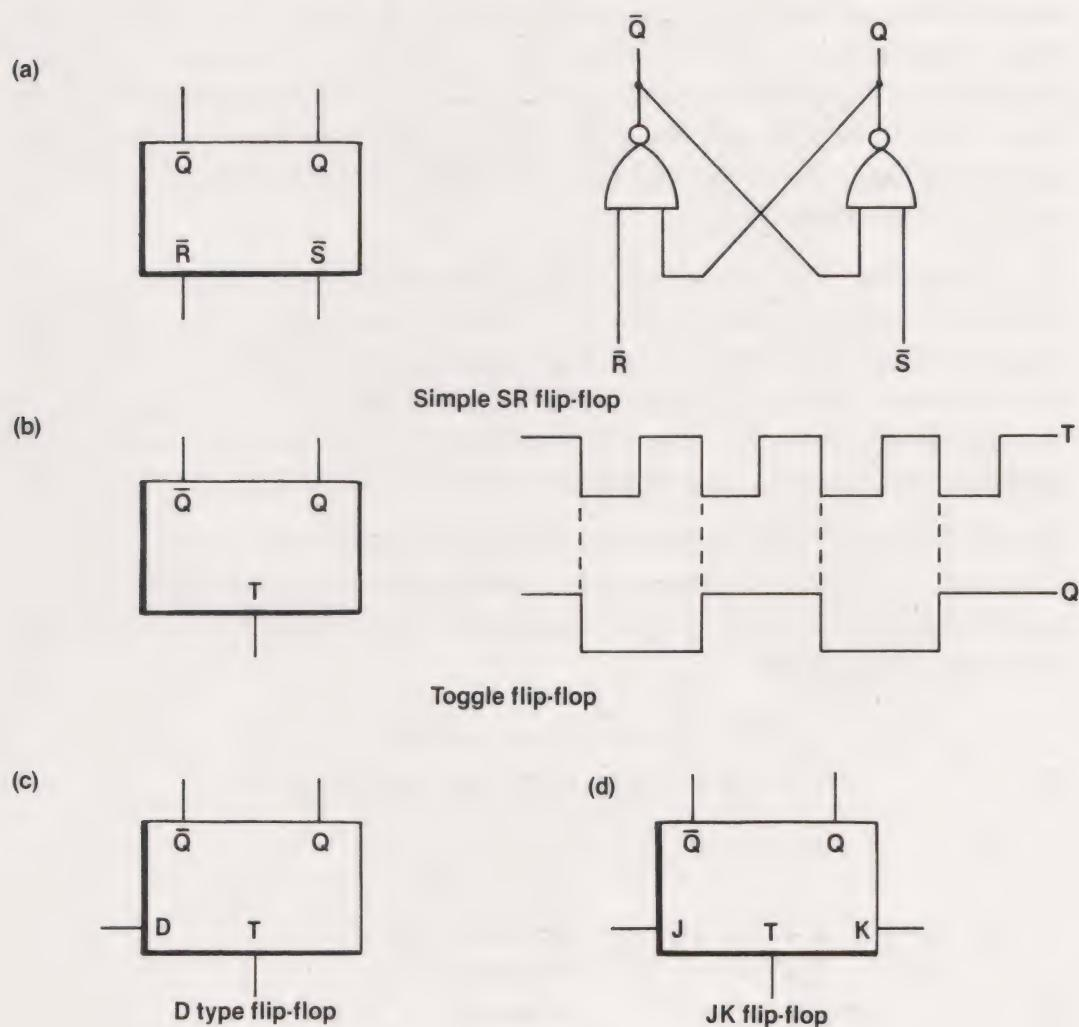

Fig. A.4 Types of flip-flop.
Logic gates deliver an output state, depending on the present input conditions. They are combinatorial devices, acting in real time and capable of analysis by simple Boolean algebra. Flip-flops are in an entirely different class because their present state depends on some event (usually a logic pulse) which occurred in the past. From this, it should be easy to conclude that flip-flops have the ability to memorise. But they can't memorise much. In fact, one flip-flop can only store a single bit so we would need eight of them to store one byte of data. A flip-flop which is storing a 1 is said to be set; if it is storing a 0, it is said to be reset. The four varieties of flip-flop in common use are shown in Fig. A.4.
*The T flip-flop.* This is often called a 'toggle' because every negative-going edge of a pulse on T will change the state at Q – it toggles the state backwards and forwards. The waveforms shown on Fig. A.4(b) indicate that a continuous pulse of frequency  $f$  applied to T causes an output frequency of  $f/2$ , illustrating its primary use as a frequency divide-by-two stage. The Q output will be at the same half-frequency as  $\bar{Q}$  but in the opposite phase. Direct set and reset terminals, which override T, may also be present in some types.
*The JK flip-flop.* This is a versatile breed of flip-flop, shown in Fig. A.4(d). The logic state on the J,K terminals decide the eventual state of Q after the next trigger pulse on T. The action is best described with the aid of the following truth table: